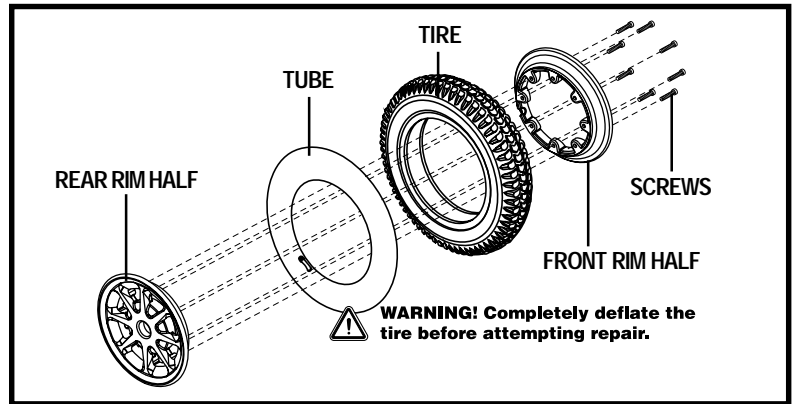

Figure 28. Quantum 1122 Drive Wheel Disassembled
6. Remove the screws from the rim assembly and separate the front and rear rim. See figure 28.